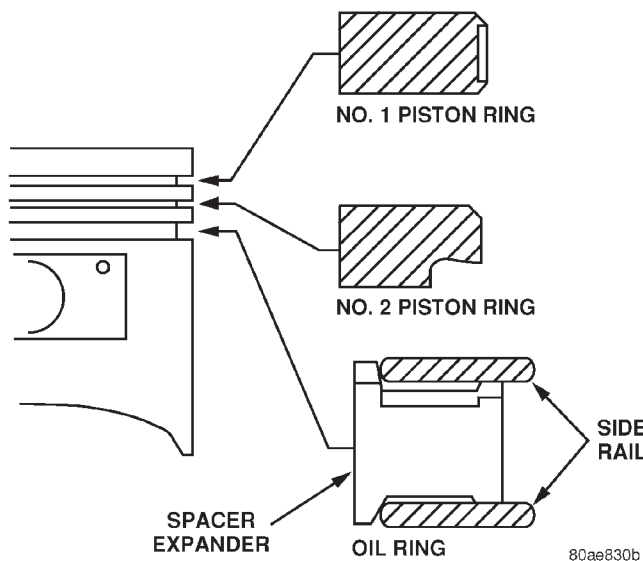

Fig. 9 Piston Ring—Installation
(1) The No. 1 and No. 2 piston rings have a different cross section. Insure that the No. 2 ring is installed with manufacturers I.D. mark (dot) facing up, towards top of the piston (Fig. 9).